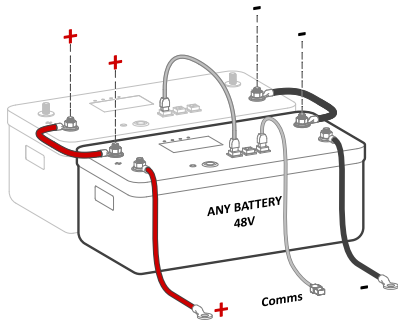

Figure 5a: 48V batteries in parallel connection
- B. Depending on battery voltages, wire up the battery bank in the next possible configurations (see figures 5a-5c).